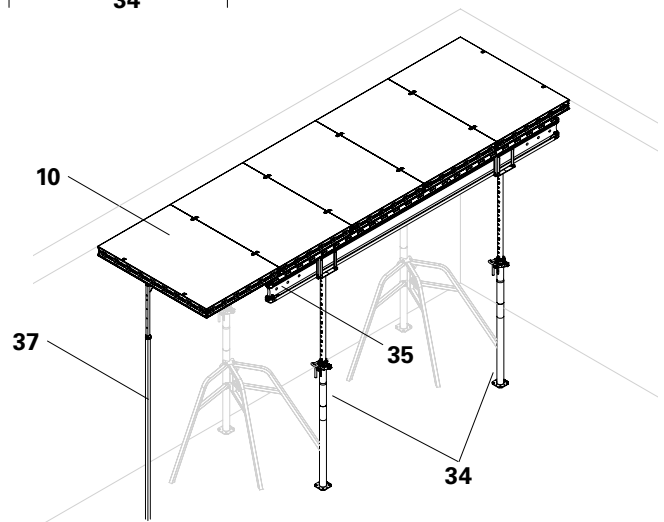

Fig. D6.16
7. Before starting work on the next row, fit one DUO coupler (21) at each panel transition in order to guarantee the overall stability of the system.
8. Push the next DP panel (10) upwards with the DUO shuttering aid (37). (Fig. D6.16)